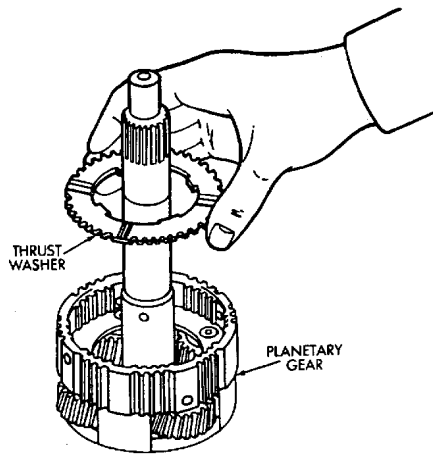

Fig. 15 Removing Planetary Thrust Washer
- (16) Remove thrust washer (Fig. 15).
- (17) Measure clutch disc thickness. Minimum allowable thickness is 1.84 mm (.0724 in).